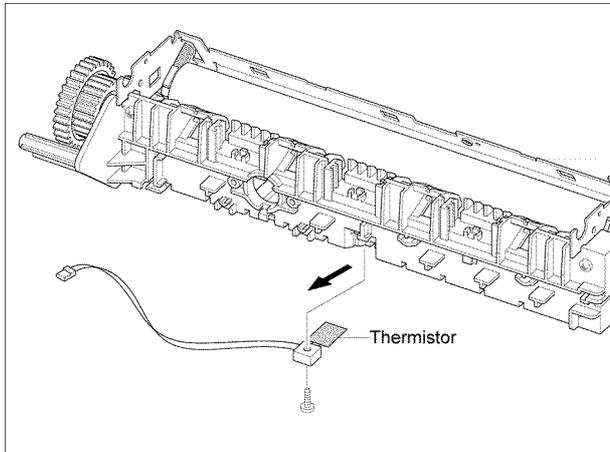

Figure 8
9. Disconnect 1 screw, then remove the thermistor, Figure 8.